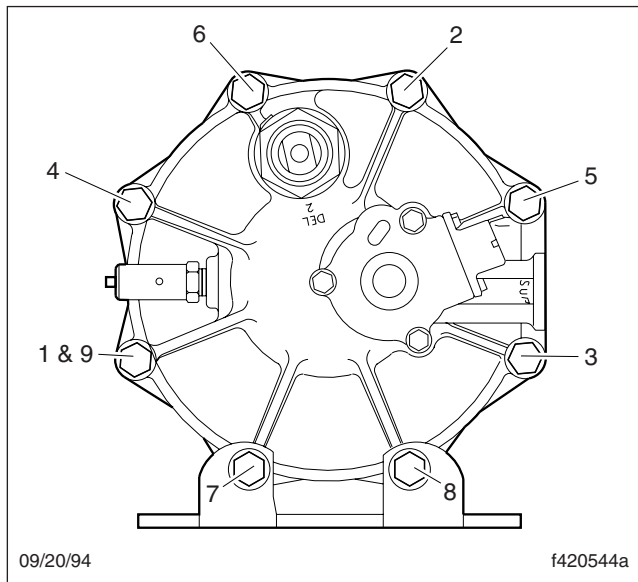

Fig. 2, AD-9 End Cover to Housing Torque Pattern
16. Install the 6 bolts, 12 washers, and 6 new Nylok nuts. Torque the Nylok nuts in a star pattern 17 to 24 lbf·ft (23 to 33 N·m). See Fig. 2.